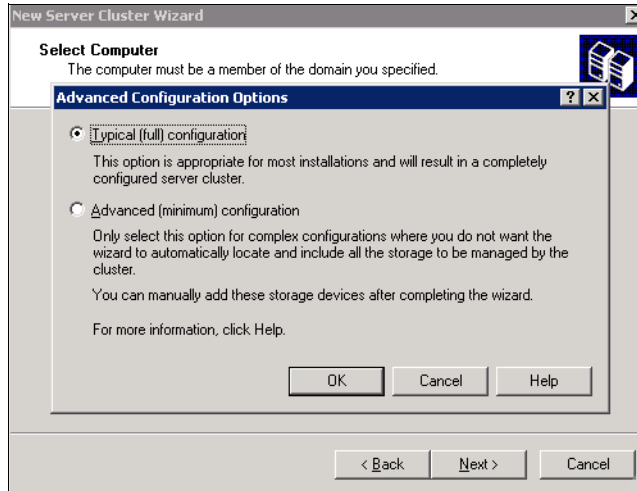

Figure 25-29 Advanced Configuration Options
6. You can choose from a Typical Configuration or an Advanced (minimum) Configuration (Figure 25-29 on page 631). The Advanced Configuration should be used for complex shared-storage configurations. We select **Typical (Full) Configuration** and click **Next**.